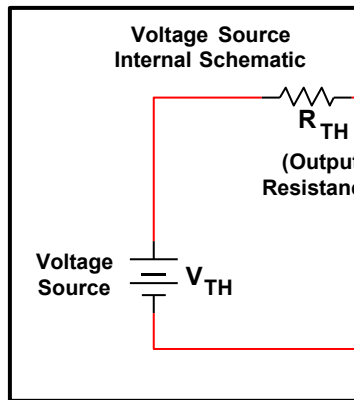

Figure P.2.1 – Circuit to Measure R_{TH}
Consider the circuit setup in **Figure P.2.1** below. We do not know what V_{TH} or R_{TH} are inside the voltage source. However, we can attach different size resistors to the voltage source and measure I_L and V_L (the usefulness of these measurements will be explained shortly). For five possible values of R_L , we have measured values for I_L and V_L as shown in **Table P.2.1**.
We need a way to relate the data we have collected back to the circuit we have in **Figure P.2.1**. We can easily use KVL to relate the values of R_{TH} and V_{TH} (our unknown variables) to R_L and V_L (our measured, known variables).
1. For this prelab problem, use **KVL** on the circuit in **Figure P.2.1** to generate an equation for the voltages in the loop in terms of the variables V_{TH} , R_{TH} , R_L , and V_L . For example, using Ohm's law, we know the voltage across the internal source resistor, $V_{R_{TH}} = R_{TH} \times I_L$, so we can eliminate $V_{R_{TH}}$ from our KVL equation.
1. Your KVL equation for the circuit in **Figure P.2.1** and all work getting it to be in $y=mx+b$ form.
3. Using what you did in Excel, what is the value for R_{TH} in the circuit in **Figure P.2.1**?